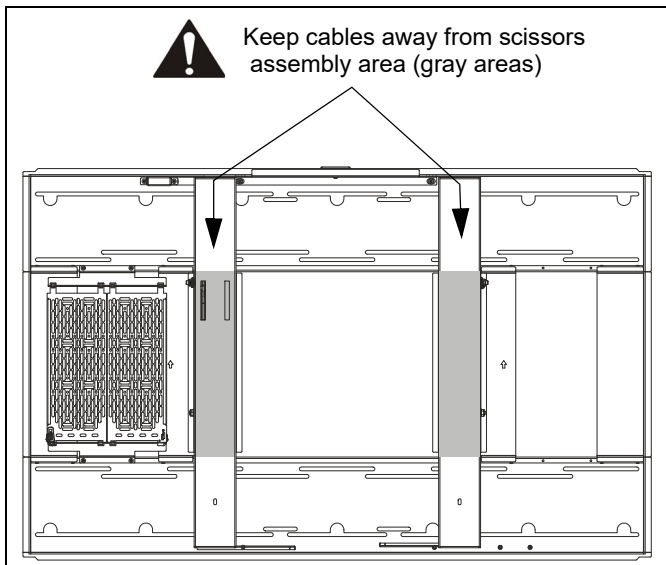

Figure 15
1. Cables may be placed in the rear frame areas **outside** of the scissors assembly (gray areas). (See Figure 15)
IMPORTANT ! : Do NOT place cables where they may move between the scissors assembly. Damage to cables may occur. (See Figure 15)